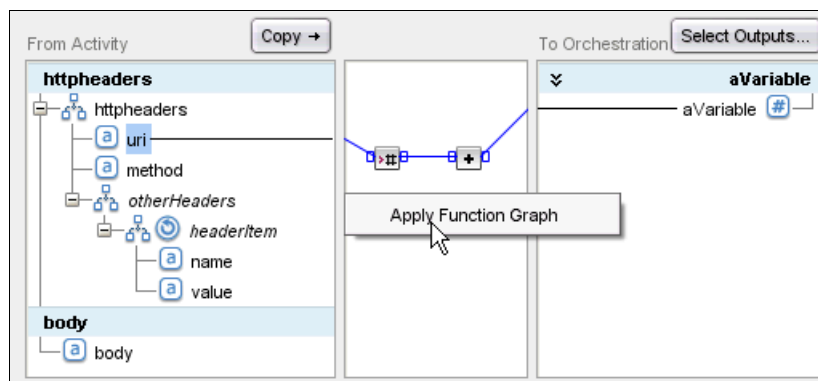

Figure 3-90 Apply Function Graph
4. After you create all of the parameters and mappings for a function or chain of functions, right-click anywhere in the middle pane, and then click **Apply Function Graph**, as shown in Figure 3-90.